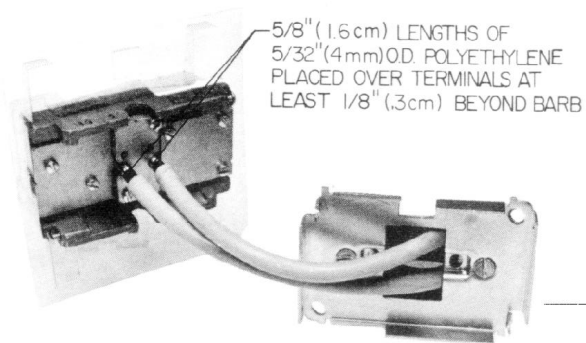

Fig. 6
- a. Cut the tubing connections from the old instrument close to the instrument terminals. Cut one 5/8 in. length of 5/32 in. O.D. polyethylene tubing for each new instrument terminal and slide it over each terminal at least 1/8 in. beyond the barb. The new instrument can then be adapted to the existing tubing connection provided the existing 1/4 in. tubing is not deformed, cracked or otherwise damaged, see Fig. 6.